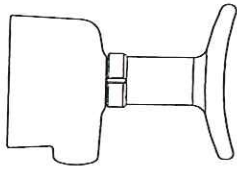

Fig.2 Normal State
3. Unlock the handle and confirm that it returns completely to the original position shown in Fig.2.